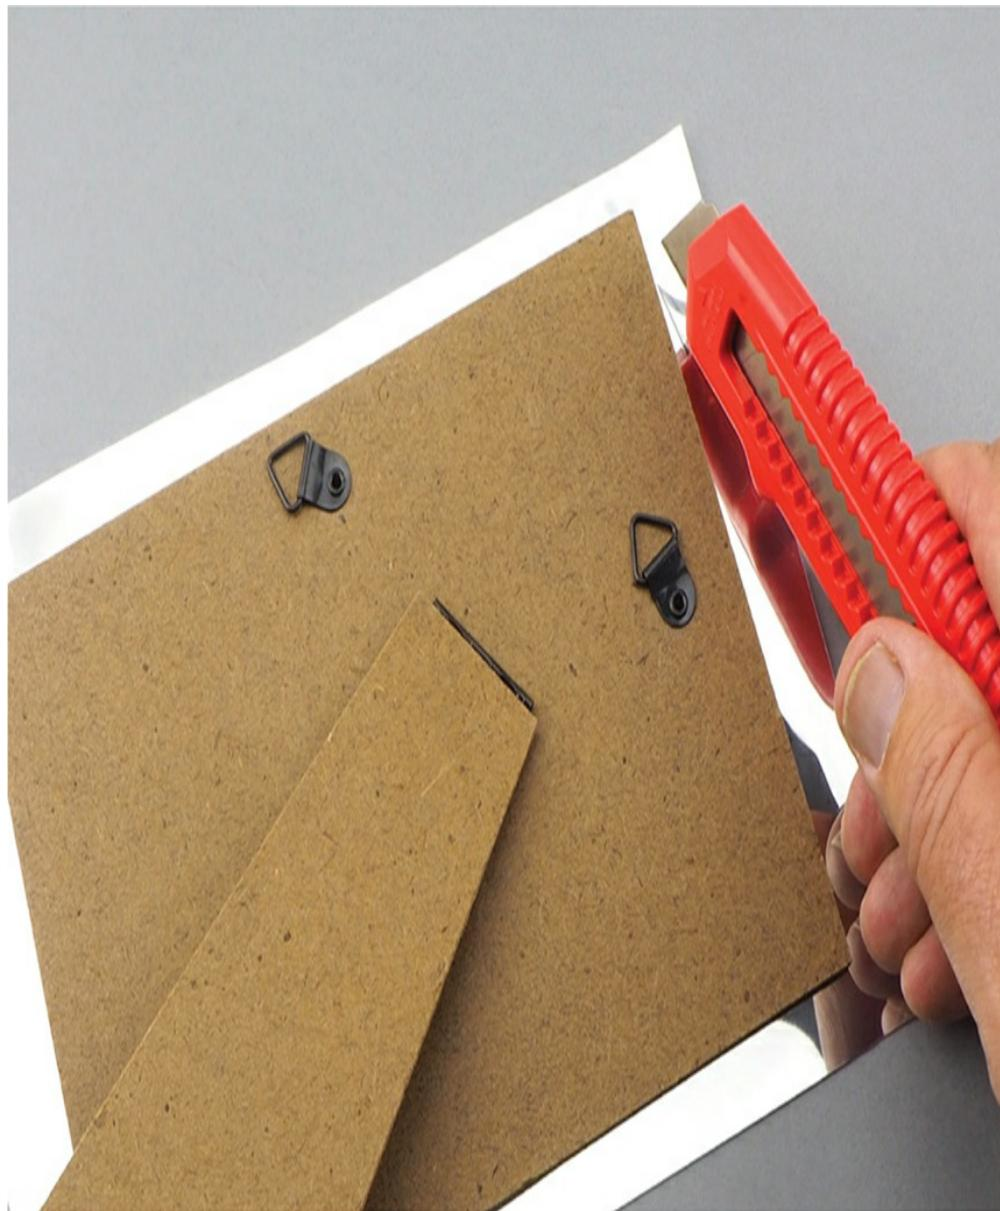

Figure 3-17: Trimming the reflective window film for the backboard
8. Lay the backboard of the frame on your second piece of reflective film and cut the film to the same size as the backing frame (Figure 3-17). You don't need to remove the protective film or stick the film to the board unless the film does not lie flat when you put the frame back together.